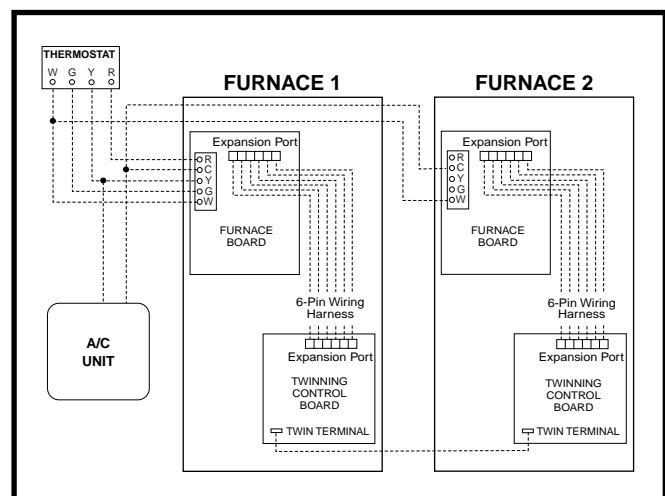

Figure 16. Single Stage Twinning
If both single stage furnaces are upgraded to the fixed speed iSEER™ blower, the twin terminal on the blower control boards (Figure 16) may be used to twin the single stage furnaces only if the following criteria are met:
For twinning of single stage furnaces equipped with fixed speed iSEER™ blowers, refer to Figure 16 and the following instructions:
3. Refer to Figure 16 (page 21) for the remaining thermostat connections. The **C** connection must be made between the twinned furnaces to ensure proper performance.